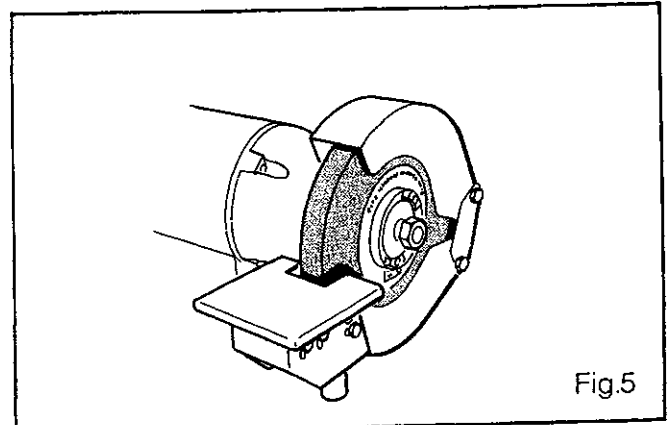

Fig.5
- 6 Connect these assembly unit to grinding cover, as figure 5.